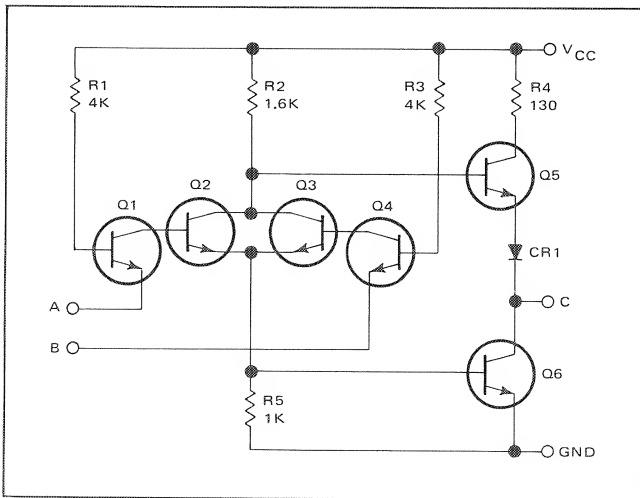

Figure 5.19 - Basic TTL Nor Gate
5.99 A majority of the integrated circuits used in the 8000B counters are TTL type integrated circuits. TTL circuits operate up to  $\approx 15$  MHz. The basic Nor function is shown in figure 5.19. Logic levels are: